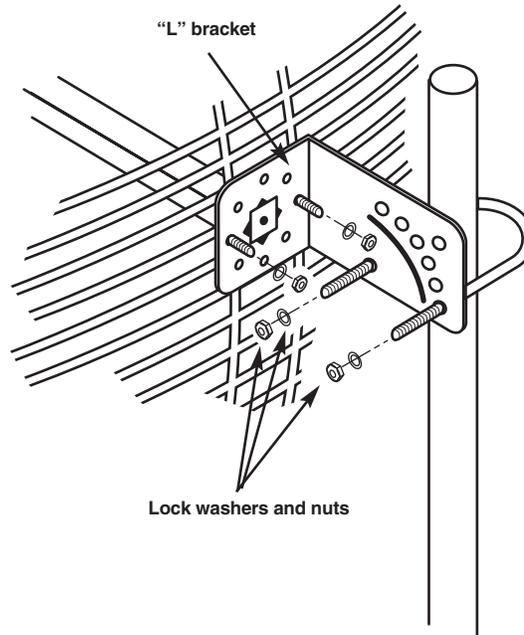
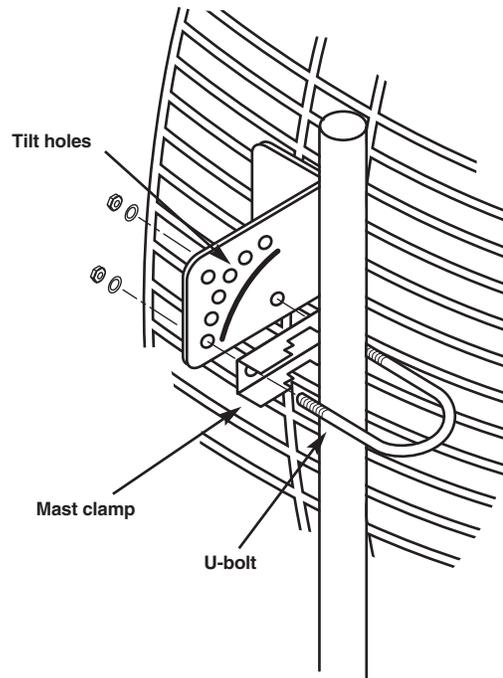

Figure 3-5. Fastening the U-Bolt on the “L” Bracket.
Figure 3-6. Placing the Mast Clamp on the U-Bolt.
- Place the mast clamp on the U-bolt (see **Figure 3-6**). Fasten the U-bolt on the “L” bracket with two lock washers and nuts (see **Figure 3-5**).
Fixed tilt holes provide antenna elevation of up to 60 degrees in 10-degree increments. See Figure 3-6.